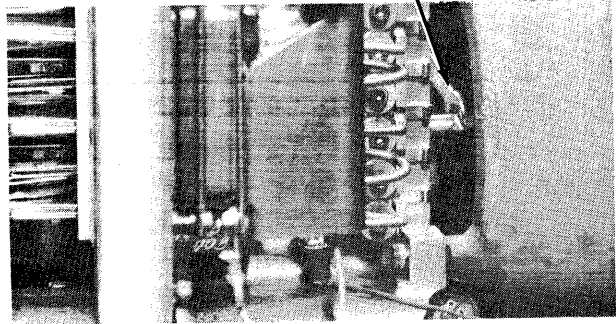

Figure 5-45. Velocity Tach Rod
- b. Loosen tach rod from head mounting block, using a 3/16" open end wrench on the tach rod flats (see Figure 5-45).